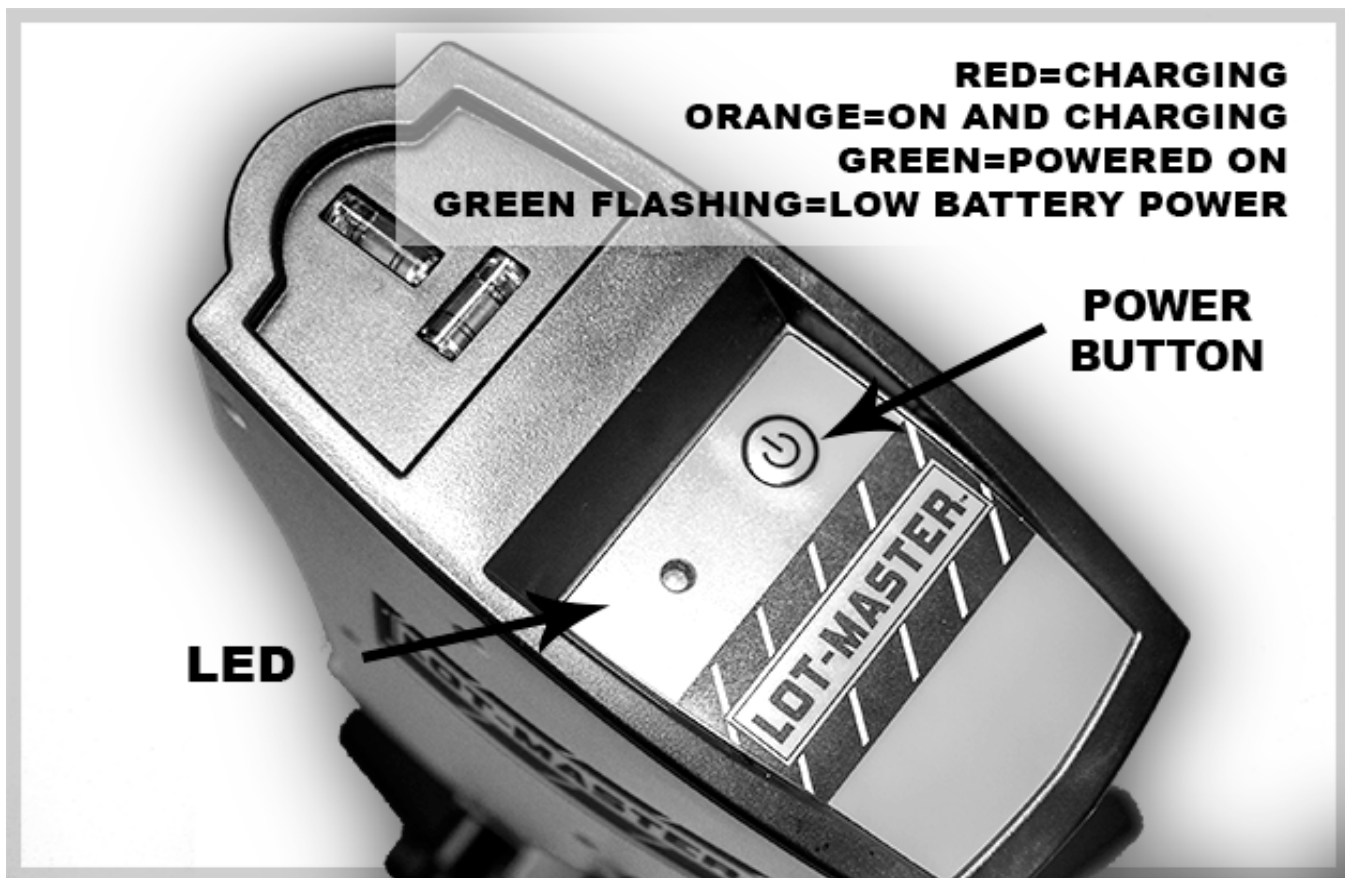

Fig.10
Unit is turned on at the time of charging, the LED indicator will be a slight orange color. (See *Figure 10*)
6. Power the unit up by pressing the on/off button located on the indicator panel on the top of the Infrared Head Unit. A Green LED will light up when power is on. However, if the batteries are low, the indicator will be flashing Green. (See Figure 10)